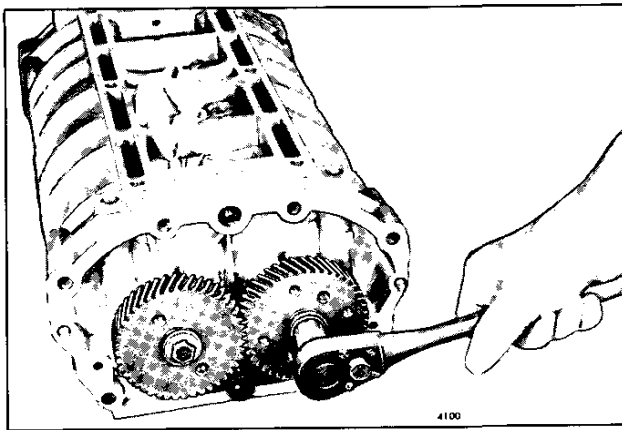

Fig. 17 - Installing Blower Rotor Gears
- g. Place the rotor gear pilots (43) on two 3/8"-24 x 2-3/4" bolts, then thread a bolt into the end of each rotor shaft. Place a clean shop towel between the rotors and one between the rotor and the housing (Fig. 17) to prevent the gears from turning. Then draw the gears approximately half-way on the rotor shafts.
- k. Thread the hex head bolt in the left-hand helix rotor shaft and the twelve point head bolt in the right-hand helix rotor shaft and draw the rotor gears into position tight against the shims and the bearing inner races as shown in Fig. 17. Tighten the bolts to 50-55 lb-ft (68-75 N·m) torque.